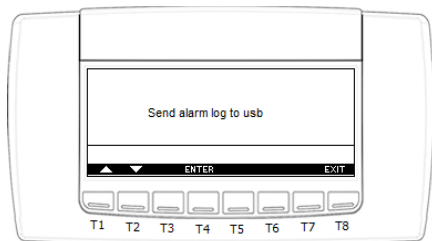

Figure 31: Alarm log
- 4) The following interface will be displayed: "Send alarm log to usb" (see **Figure 31**)